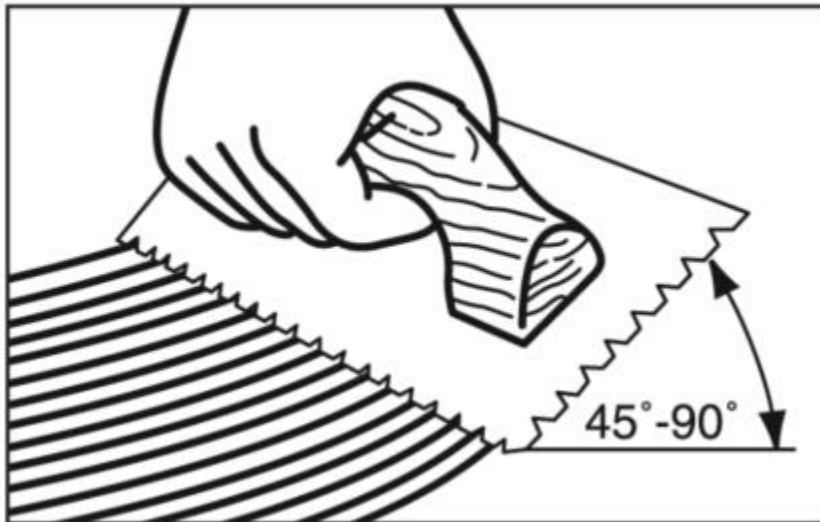

Figure 9
- Hold trowel at a minimum 45° angle (Figure 9) firmly against the subfloor to obtain a 50-60 ft.² (4-5.5 m²) per gallon spread rate (20-30 ft.² per gallon for Bruce® Summit Select or Bruce® ProConnect Plus spread with listed trowels) The trowel will leave ridges of adhesive and very little adhesive between the ridges. This method will allow you to still see the chalk lines between the ridges and provide the recommended spread rate.